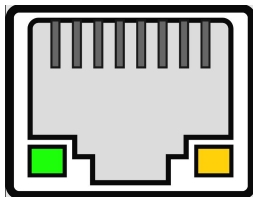

Fig. 26
2. Connect the cable to the ethernet ports on both devices(see Fig. 26).